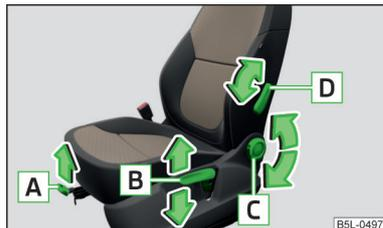

Fig. 59
Control elements at the seat » Fig. 59
► Pull the lever **A** » Fig. 59 in the direction of the arrow and push the seat in the required direction.
► Again push or pull the lever **B** » Fig. 59 in the direction of one of the arrows.
► Push the lever **C** » Fig. 59 in the direction of one of the arrows.
► The lever **D** » Fig. 59 in direction of arrow.